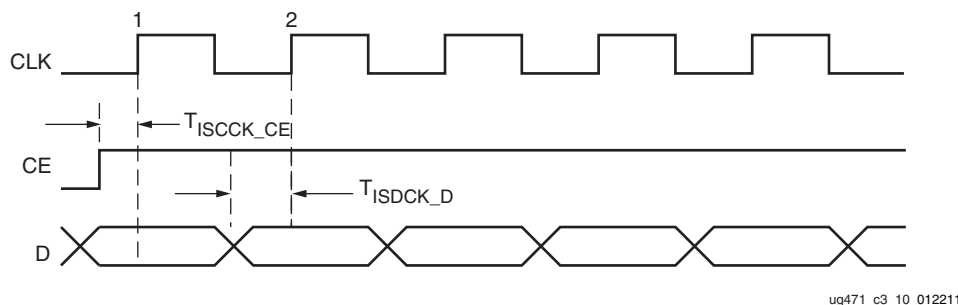

Figure 3-10: ISERDESE2 Input Data Timing Diagram
Figure 3-10 illustrates an ISERDESE2 timing diagram for the input data to the ISERDESE2. The timing parameter names change for different modes (SDR/DDR). However, the names do not change when a different bus input width, including when two ISERDESE2 are cascaded together to form 10 or 14 bits. In DDR mode, the data input (D) switches at every CLK edge (rising and falling).